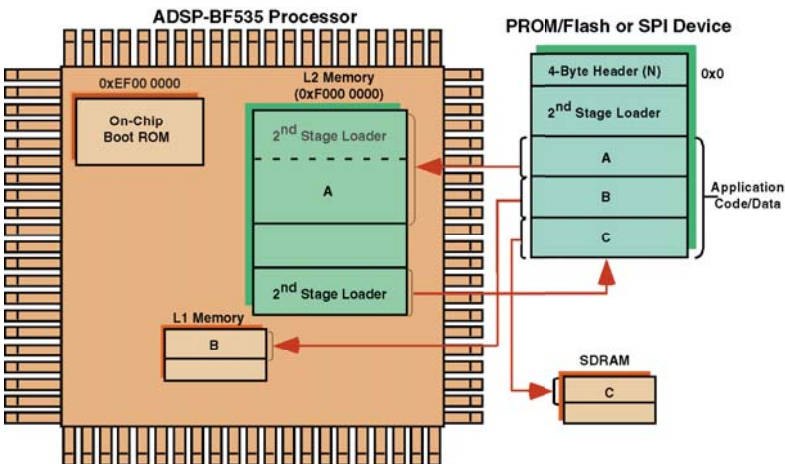

Figure 3-11. ADSP-BF535 Processors: Booting Application Code
3. The second-stage loader downloads the application code and data into the various memories of the Blackfin processor (Figure 3-11).